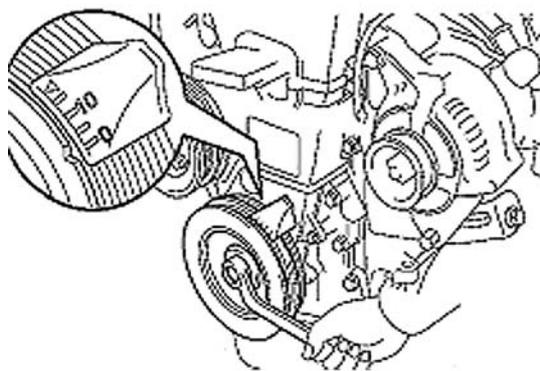

Figure 40
- (a) Turn crankshaft pulley to align its notch to the timing mark "0" on the timing belt cover. See (Figure 40).